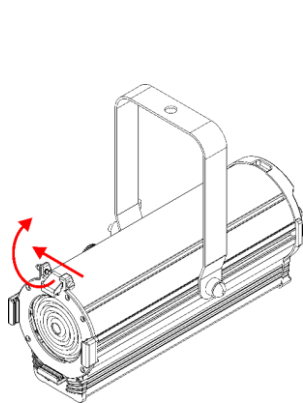

Fig. 10
- 01) Push the **spring-loaded screw (09)** and at the same time lift the **color frame clip (08)** and flip it backwards (see Fig. 10).